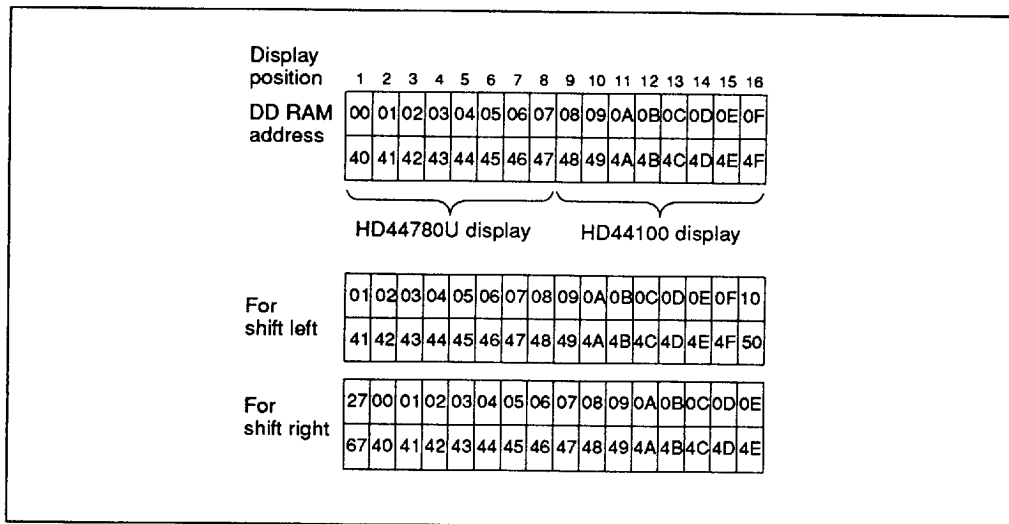

Figure 8 2-Line by 16-Character Display Example
- Case 2: For a 16-character × 2-line display, the HD44780 can be extended using one HD44100. See figure 8.
When display shift operation is performed, the DD RAM address shifts. See figure 8.